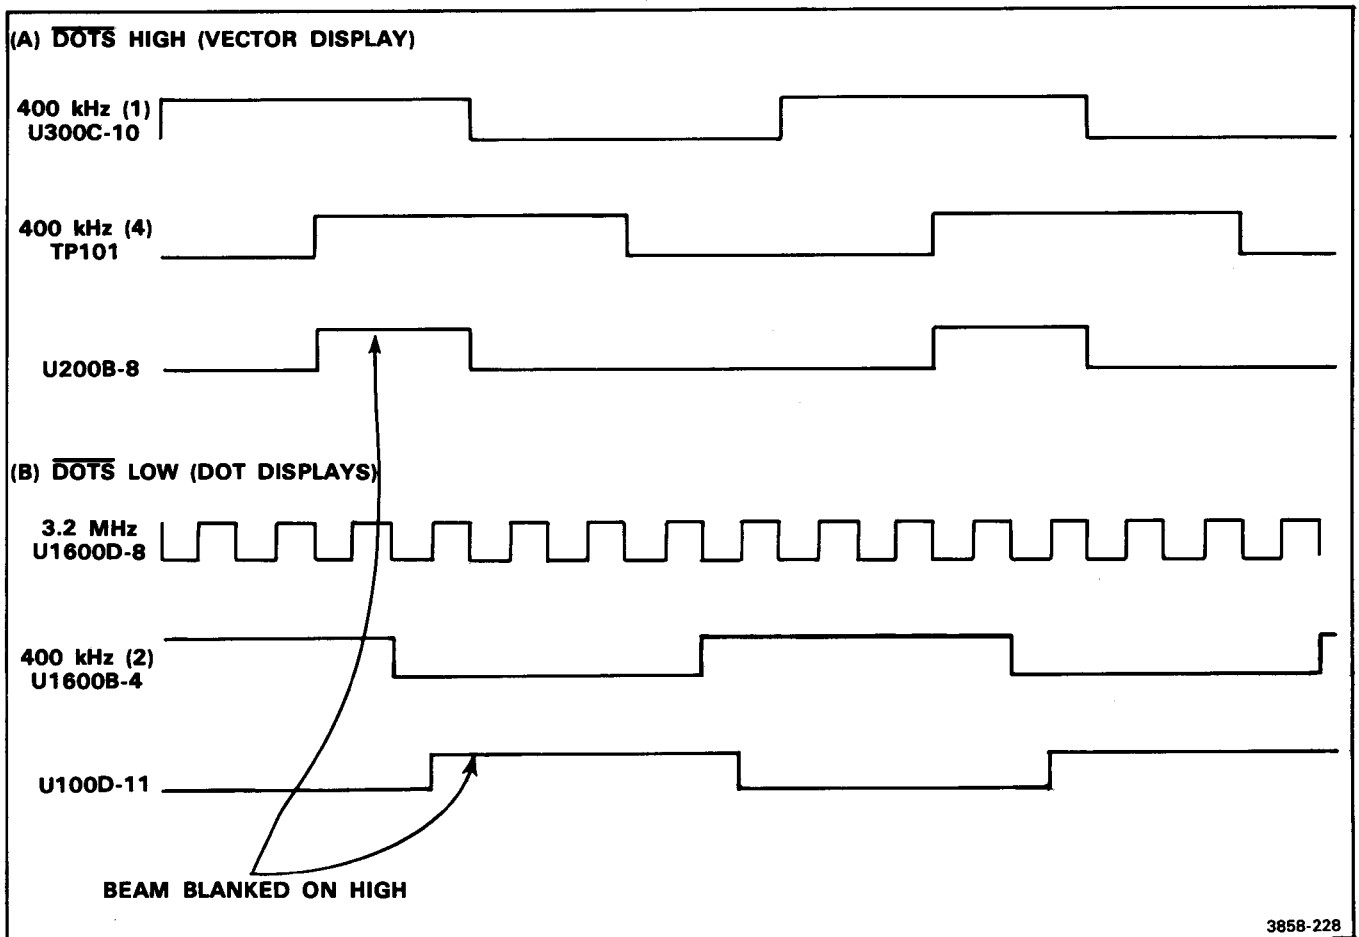

Figure 2-13. Crt Beam Blanking Timing: (A) Vector Mode; (B) Dots Mode.
During a display cycle, flip-flops U200B and U1500A control the blanking of the display. When the DOTS line is low (dots mode), the high at pin 12 of U1600F holds the \bar{Q} output of U200B high. U1500A then controls the blanking of the crt beam (see Fig. 2-13). The output of U1500A at pin 6 is essentially the 400kHz(2) signal,